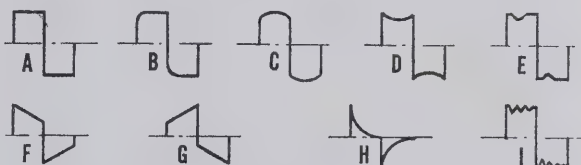
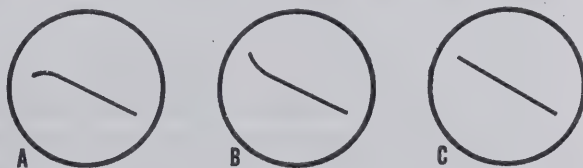

Fig. 6
Fig. 8
- ✓) Fig. 6. Connect a brown lead from TB15-3 (S) to R64-2 (S), passing the lead along the strut as shown (Fig. 8).
- ✓) Fig. 6. Connect a green lead from TB15-2 (S) to J7 (S), passing the lead along the strut as shown (Fig. 8).
- ✓) Fig. 6. Mount the CRT socket on the tube base. The locating pin should point up.
- ✓) Fig. 6. Connect the green twisted pair from the transformer to the CRT socket, XV10-1 (C) & 12 (S). Leave at least 1" of slack in all CRT connections.
- ✓) Fig. 3. Connect a grey lead from TB8-2 (C) to XV10-1 (S) (Fig. 6).
- ✓) Fig. 3. Connect the green lead from TB8-3 to XV10-2 (S) (Fig. 6).
- ✓) Fig. 12. Run a brown lead along the strut from TB18-1 (S) to XV10-3 (S) (Fig. 6).
- ✓) Fig. 12. Run a blue lead from R75-2 (S) over the rear bezel, past R72, and along the strut. Connect the other end to XV10-4 (S) (Fig. 6).
- ✓) Fig. 6. Connect the blue lead from XV7-2 to XV10-10 (S).
- ✓) Fig. 6. Connect the blue lead from XV7-1 to XV10-9 (S).
- ✓) Fig. 6. Connect the green lead from TB13-1 to XV10-6 (S).
- ✓) Fig. 6. Connect the green lead from TB13-4 to XV10-7 (S).
- ✓) Fig. 3. Connect the grey lead from TB1-2 to XV10-8 (S) (Fig. 6). (SHIELD)
- ✓) Fig. 3. Connect the red lead from TB4-1 to S2-2 (S) (Fig. 8).
- ✓) Fig. 3. Connect the yellow twisted pair from XV9-2 & 7 to XV7-3 & 4 (S). (Fig. 6)
- ✓) Fig. 12. Connect a green lead from TB18-3 (S) to J9 (S) (Fig. 8).